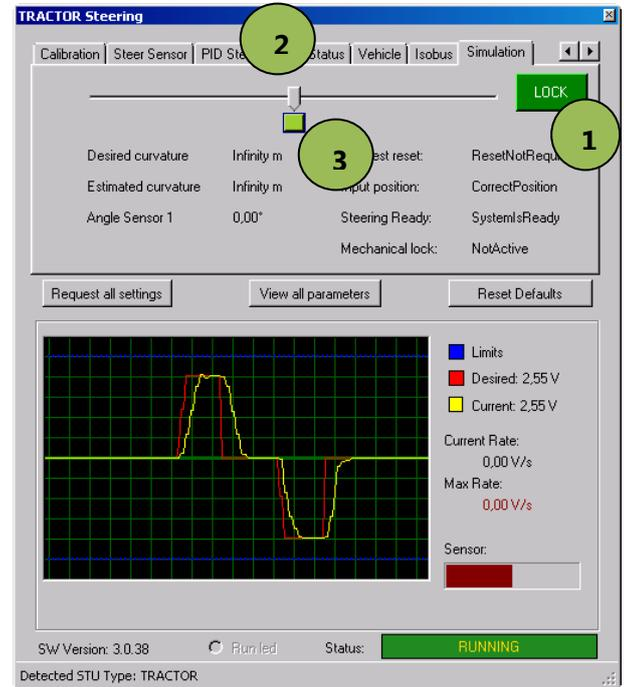

Figure 32 Simulation tab.
2. Slide the slide bar in the Simulation tab (Figure 32) from the center to $\frac{3}{4}$ right or left. Judge the performance of the steering system when the wheels move to the desired position. The wheels should reach the desired wheel position without a lot of exceedance, but as quickly as possible.
In the graph, shown in Figure 32, the red line indicates the desired position of the wheels which can be altered by sliding the slide bar (see "2" in Figure 32) left/right. The yellow line represents the actual position of the wheels measured by the wheel angle sensor.
Steering the wheels manually for tuning purposes can be done as followed. Press the "UNLOCK"-button [1] Figure 32) to activate the steering system. Slide the slide bar [2] to change the desired wheel position (wheels will start moving). Do this while driving slowly and repeat several times. With the green button [3] the wheels go back to the center position. Judge how the wheels steer to the desired wheel position. The wheels should reach the desired wheel position without a lot of exceedance, but as quickly and smooth as possible. When the desired wheel position is reached the yellow line should exactly be on top of the red line (red line is no longer visible at that point).